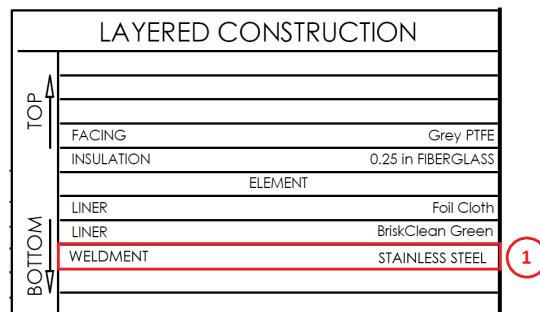

Figure 1.2:
1. Starting from the bottom and working our way up – the first thing we need to create is the Weldment, as shown in Fig. 1.2. This can be done like our patterning process where we go to the customer provided step file and replicate the part in SolidWorks. However, unlike the patterning process, we need to include the geometrical details within the part as well as the outside (Specifically, we are trying to capture the flow path/fluid region that is within the part we are simulating). If a pattern has already been created, you can copy/rename it and modify that file to fit your needs.